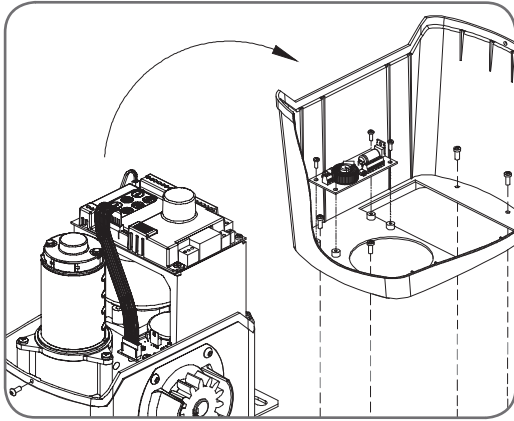

Fig 10
3. Use accessory pack 02. Mount the Charger Board inside the cover using four screws supplied in the pack 02 (Fig. 10).